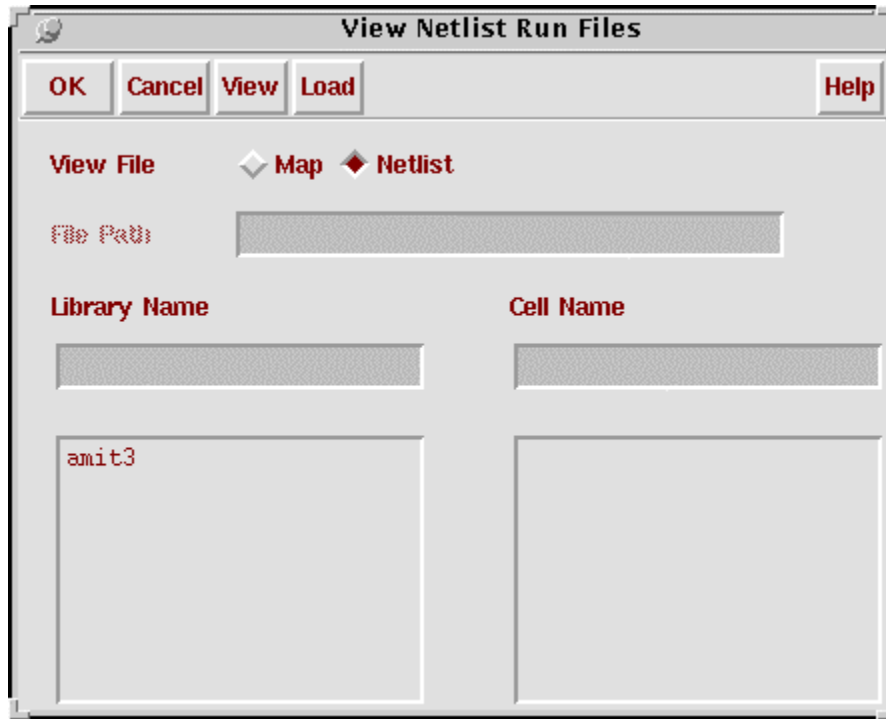

Fig 9: View Netlist Run Files
- a. In the “Virtuoso Schematic Composer Analysis Environment for Verilog-XL Integration” window select **File -> View Netlist Result -> Netlist Run Files ....** The “View Netlist Run Files” window appears as shown in Fig 9.
- b. In Fig 9 click on the **Library Name** appearing in the left box (e.g. amit3). The cells in that directory should appear in the **Cell Name** box as shown in Fig 10.